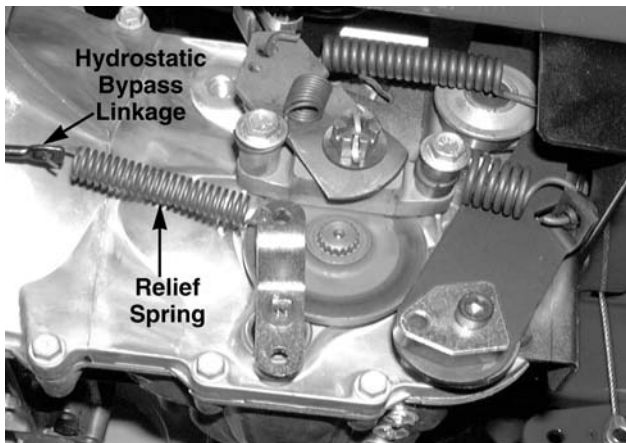

**Figure 9-56**
17. Remove the neutral return spring from the frame bolt using a piece of recoil rope. See Figure 9-56.